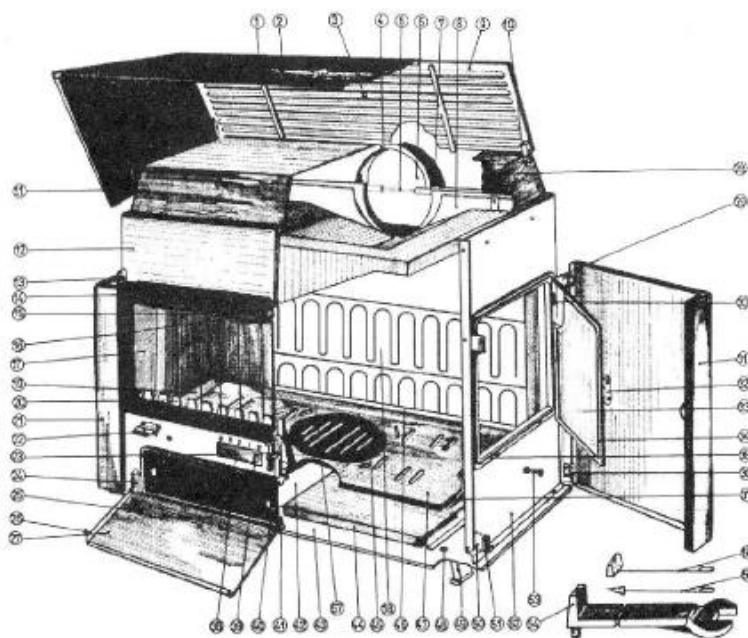

Fig. 1 RUSTIKAL - ETAZ
Aesthetically very nicely shaped, continuously burning fireplace – solid fuel stove for floor heating, fits in the interior of living rooms and remaining free space of the apartment. It is used for heating rooms, cottages, individual houses, different premises etc. The stove provides direct heating in the room where it is located, so no heating bodies are required in that room since the large glass screen (fig. 1 pos. 15) on the front door, as well as the stove casing and the cast cover provide equal heating of rooms by emission and convection.
- the front door (fig. 1 pos. 14) and the stoking door (fig. pos.33) should be provided with asbestos tape according to their size on the lying part of the surface during sealing;
- the remote thermometer for measuring the temperature in the boiler (fig. 1 pos. 16) is properly installed if its thermal probe is positioned in the special opening on the back side together with a thermal probe of the air regulator;
- the grate – grill (fig. 1 pos. 45) must be positioned in its bearing and connected to the grate shaker (fig.1 pos.45);
- the stove cap (fig. 1 pos. 1) can be kept in lifted position – by leaning on the brace (fig.1 pos. 28) on the cover of the combustion chamber (fig. 1 pos. 11).
- install a reducer on the flue connection (fig. 1 pos. 7) which is delivered separately packed together with the stove, thus reducing the flue connection from 210 to 118 mm;
- prior to stove ignition, the damper (fig.1 pos. 6) should be set on position "0".
- after checking the functionality of the stove and installation, completely open the door for stoking (fig.1 pos. 33), spread paper for setting fire and wood on the grate for stoking (fig.1 pos. 47), ignite and wait for the ignited fuel to inflame;
- in order to use to stove economically, it should be filled with coal or wood up to the height of the front grate (fig.1 pos.20);